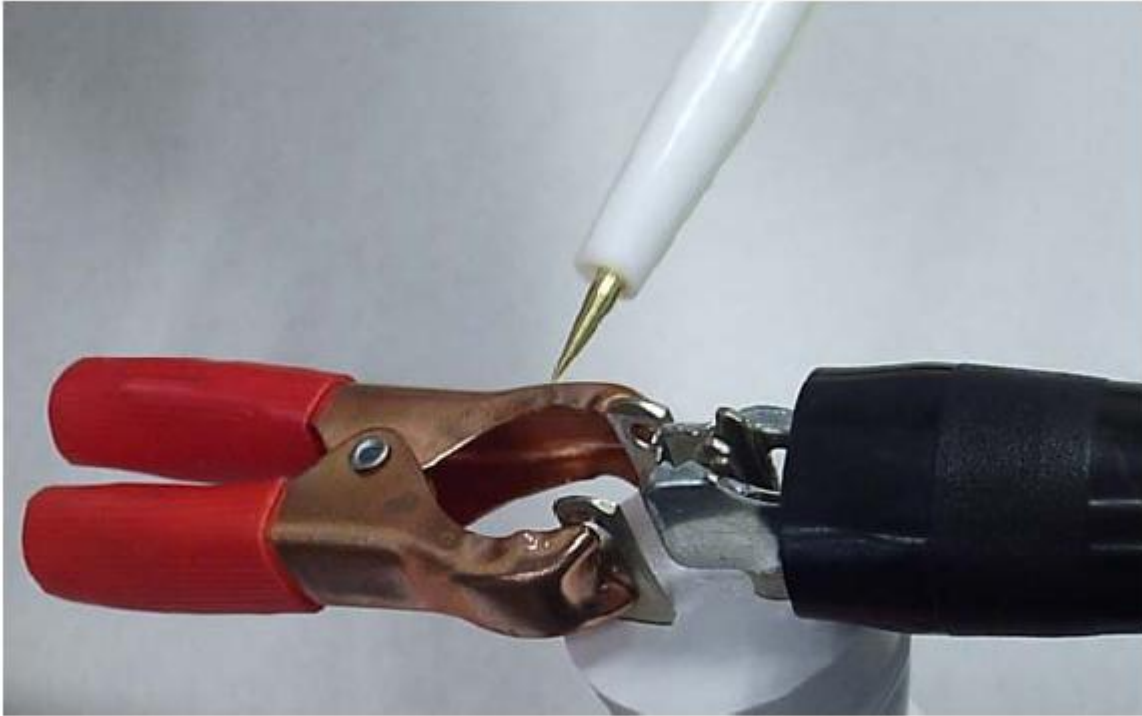

Figure 3 - Attach the Ground Lead to the Ground Pin
6. **Touch** the HIGH VOLTAGE probe (red, pen-like attachment) to the shorted live and neutral terminals, **ensuring *not* to touch the Earth Ground pin.** (see Figure 3)